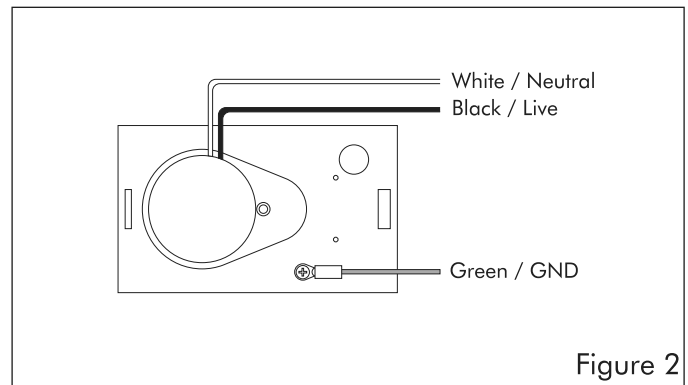
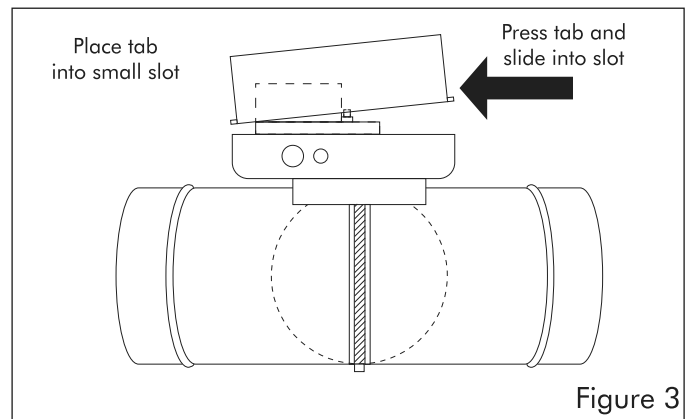

Figure 2
Figure 3
3. Connect neutral (white) wire to the motorized damper's (1) neutral (white) wire (see figure 2).
4. Connect live (black) wire to the motorized damper's (1) live (black) wire.
5. Connect the ground (green) to the motorized damper's (1) ground (green) wire.
6. Replace motor cover by solid end of cover into the small slot in the motor mount, then swing cover over the motor and slip the second tab into the larger slot (see figure 3).